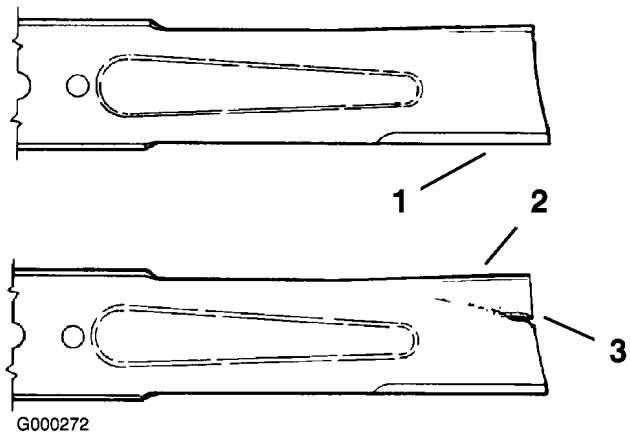

Figure 71
1. Inspect the cutting edges (Figure 71).
2. Inspect the blades, especially the curved area (Figure 71).
If you notice any damage, wear, or a slot forming in this area (Figure 71), immediately install a new blade.